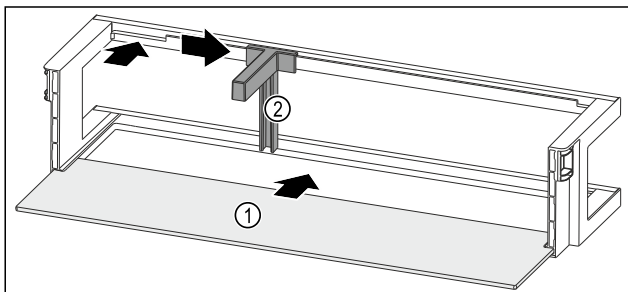

Fig. 89 Door rack with shelf
- Push the shelf Fig. 89 (1) into the side recesses.
- Insert the bottle holder Fig. 89 (2) in the recess.
- Push the bottle holder Fig. 89 (2) to the desired position to the side.